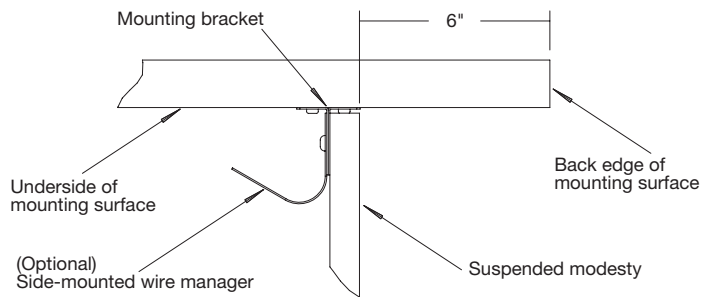

Fig. 3
Note: If optional side-hung wiremanager (E) (ordered separately) is being used, it must be assembled in conjunction with the modesty (C) also using fastener (D). (Fig. 3)